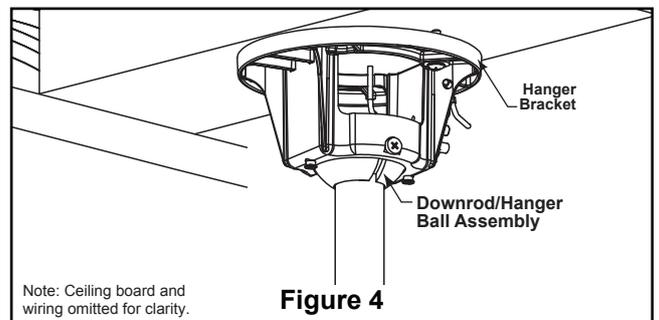

Figure 4
- 2. Carefully lift the fan and seat the downrod/hanger ball assembly on the hanger bracket that was just attached to the timber batten. Be sure the groove in the ball is lined up with tab on the hanger bracket. (Figure 4)